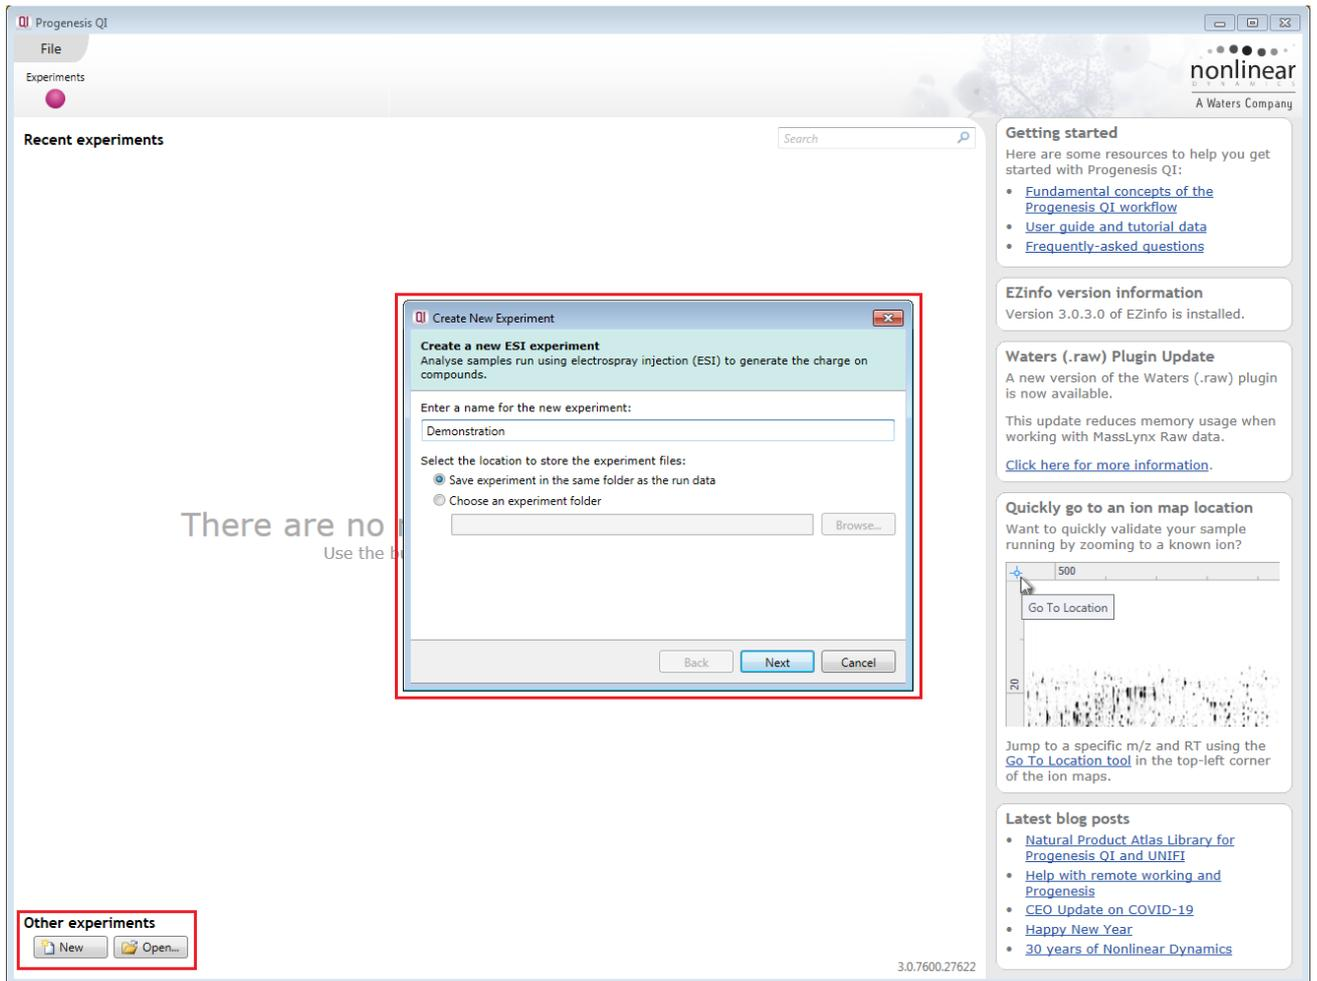

Figure 2: *Creating a new experiment – generation and naming.*
2. Below **Other experiments** at the welcome screen, click the **New** button (Figure 2).
3. Name your experiment appropriately in the pop-up dialog box, and choose where you wish to save the results of your analysis as you progress (Figure 2).